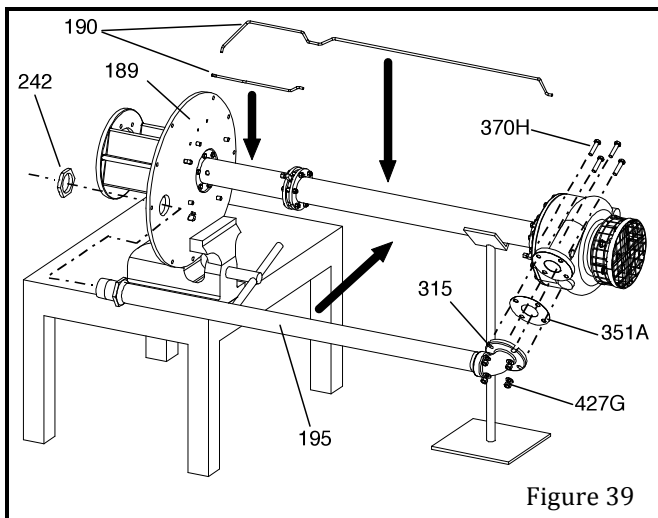

Figure 39
6. Turn discharge pipe (195) into elbow (315) with thread sealant and tighten. Turn lower pipe nut (242) onto discharge pipe all the way down thread (Figure 39).
7. Install discharge pipe/elbow assembly through support plate (189). Install elbow gasket (351A) and connect elbow to casing with bolts (370H) and tighten (Figure 39).